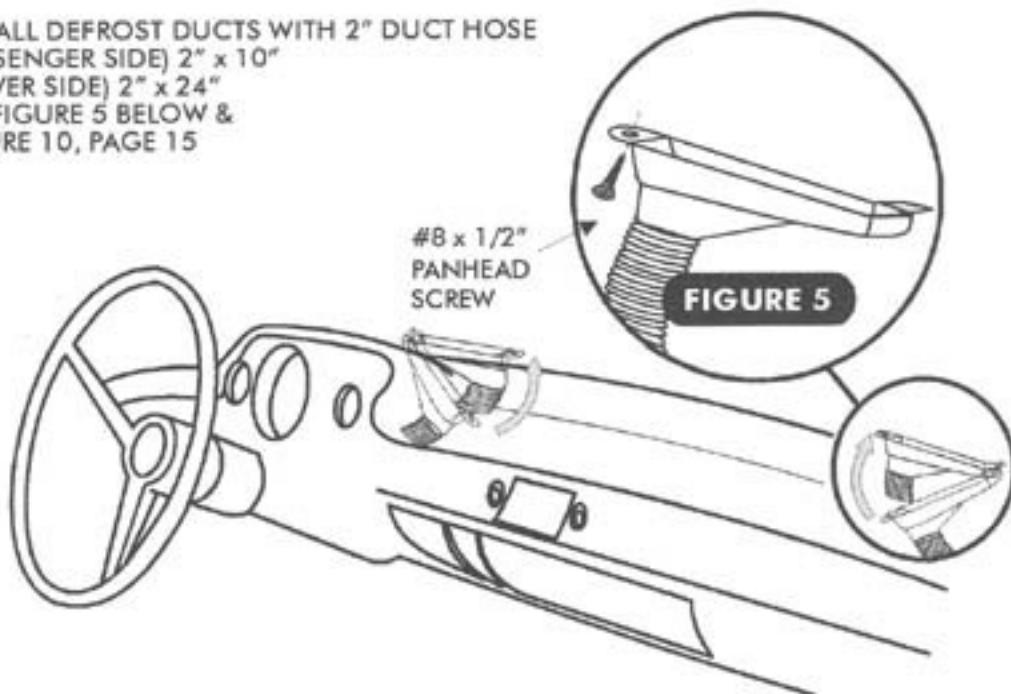

FIGURE 5
- ☐ INSTALL DEFROST DUCTS WITH 2" DUCT HOSE (PASSENGER SIDE) 2" x 10" (DRIVER SIDE) 2" x 24" SEE FIGURE 5 BELOW & FIGURE 10, PAGE 15